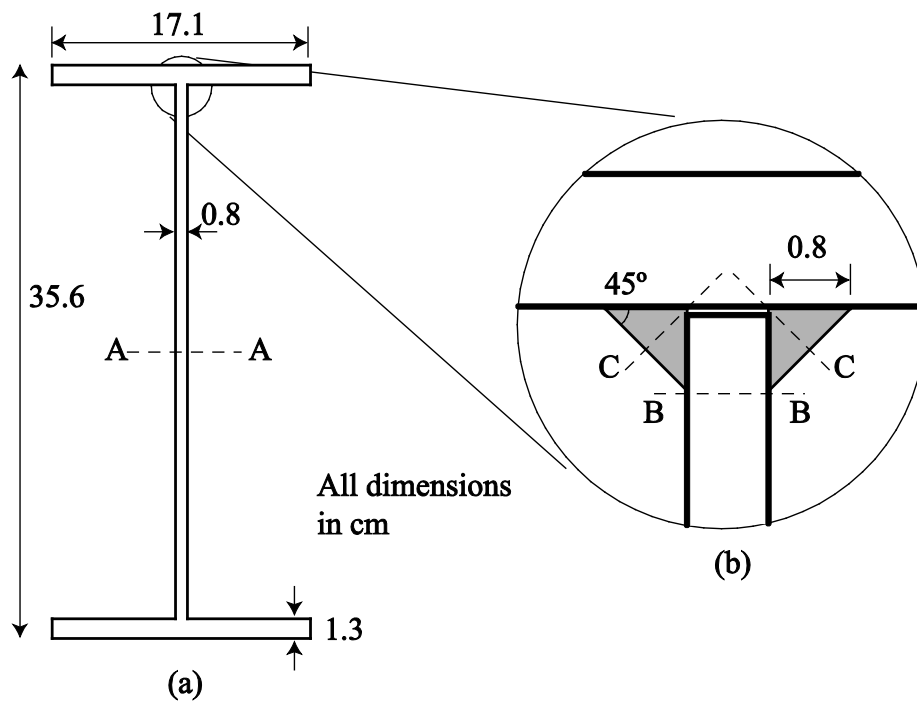

Figure 3
* 3. The steel I-beam whose cross-section is shown in Figure 3(a) has been welded up from steel plate. Details of the welded joint are shown schematically in Figure 3(b).
- (a) shear-stress across plane A-A in Figure 3(a),
- (b) shear-stress across plane B-B just below the welds in Fig. 3(b), and
- (c) shear-stress across the "throat" of the welds as indicated by the "cut" C-C in Figure 3(b).